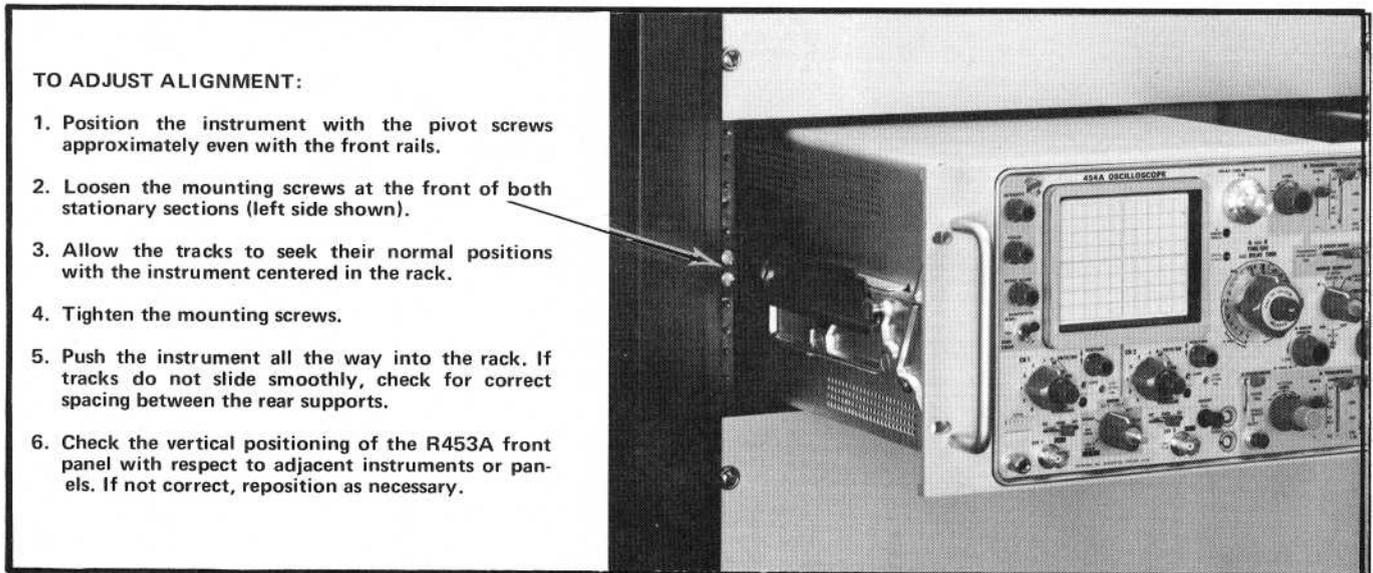

Fig. 6-9. Alignment adjustments for correct operation.
11. Adjust the alignment of the stationary sections according to the procedure outlined in Fig. 6-9. (If the rear alignment is changed, recheck the rear support pins for correct alignment.)